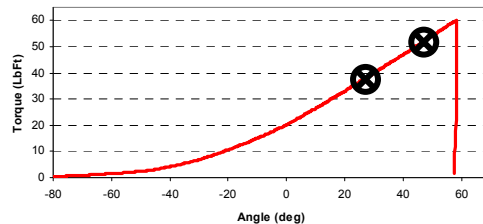

Figure 4: M-Alpha Tightening Torque –Angle Signature
Step 2: Locate two points on the linear section of the torque-angle signature curve (Figure 4).